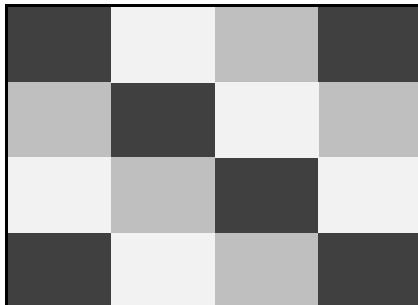

Figure 4-2. Display Test Pattern
6. Press **F3** **CALIBRATE** . The Test Tool shows a dark display; the test pattern as shown in Figure 4-2 may be not visible or hardly visible.
The Test Tool shows the display test pattern shown in Figure 4-2, at default contrast. Observe the display closely, and verify that the display shows no abnormalities. Also verify that the contrast of the upper left and upper right square of the test pattern is equal.
The Test Tool shows a light display; the test pattern as shown in Figure 4-2 may not be visible or hardly visible.